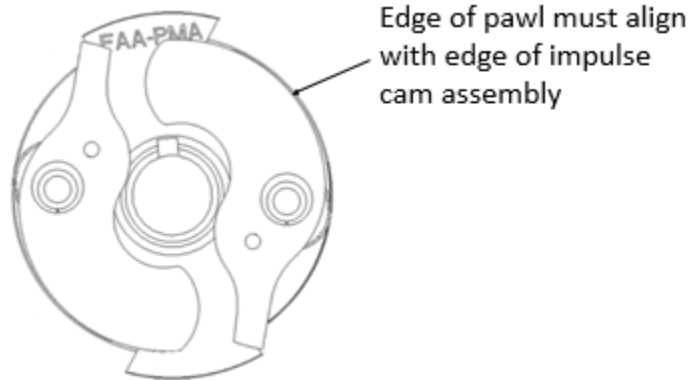

FIGURE 13
- 12.** Measure the clearance between the boss on the underside of each (2) impulse pawl and the impulse cam assembly using a 9/64 drill shank or .140 in. wire gauge.
- a. Align the outer edge radius of the impulse pawl to align with the outer edge radius of the impulse cam assembly. Reference Figure 13.